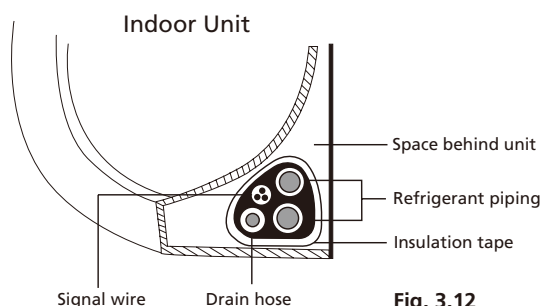

Fig. 3.12
1. Bundle the drain hose, refrigerant pipes, and signal cable according to **Fig. 3.12**.
3. Using insulation tape, wrap the signal wire, refrigerant pipes, and drain hose tightly together. Double-check that all items are bundled in accordance with **Fig. 3.12**.